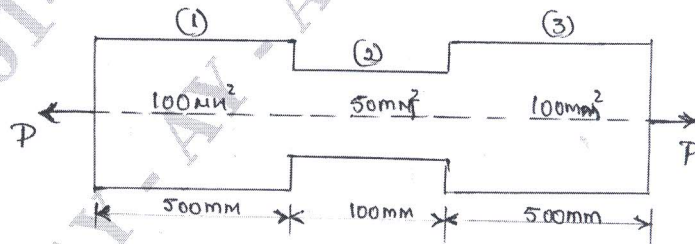

Fig. Q9 (c)
- c. The maximum stress produced by a pull in a bar of length 1100 mm is 100 N/mm^2 . The area of cross sections and length are as shown in Fig. Q9 (c). Calculate the strain energy stored in the bar if $E = 2 \times 10^5\text{ N/mm}^2$. (08 Marks)